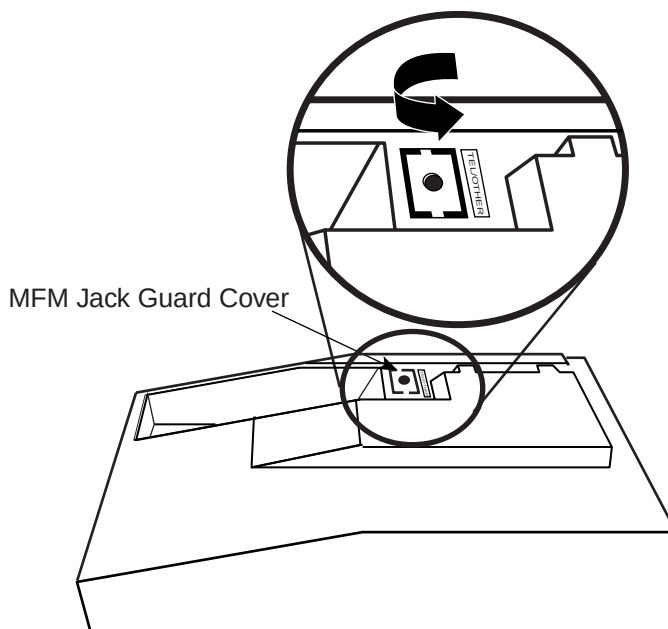

Figure 3-11. Removing the Jack Guard
► **7. To remove the jack guard, see Figure 3-11.**